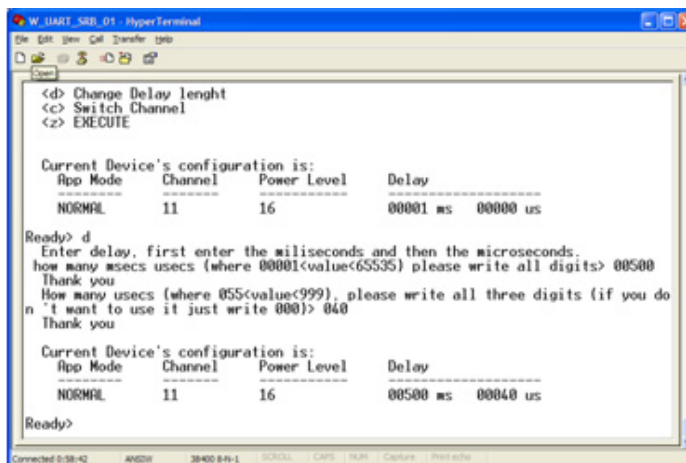

Figure 8-10. Change Delay Length
6. Type “d” to change the “Delay Length“ value. See Figure 8-10.